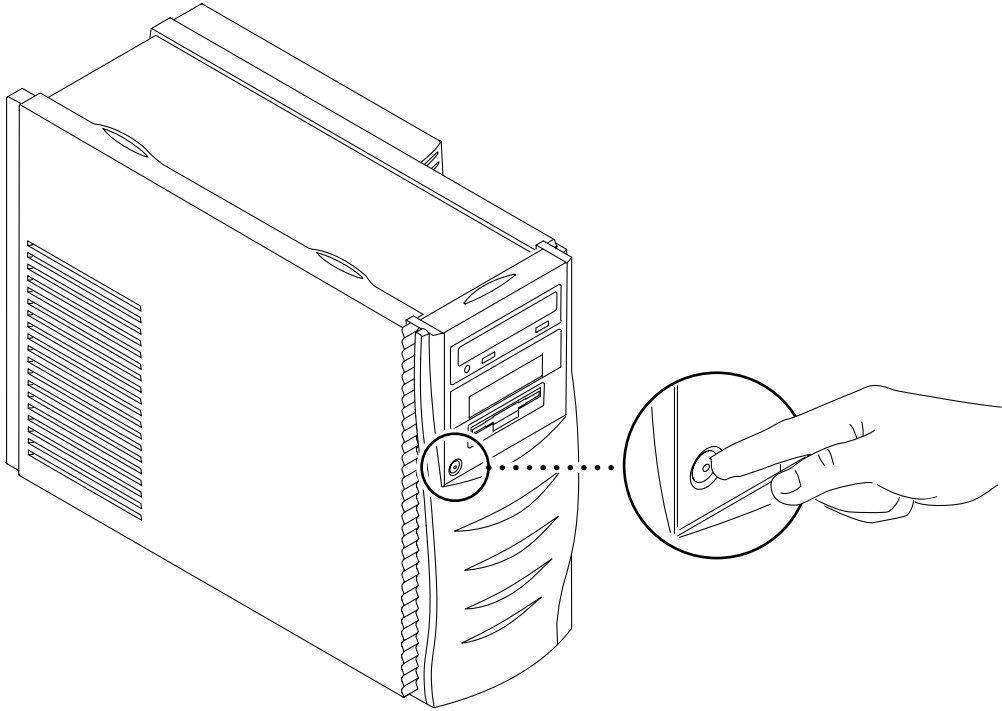

FIGURE 2 Power Switch on a System
2. Unpack or disconnect your system (FIGURE 2).
- c. **Press and quickly release the front-panel power switch (FIGURE 2) and follow the instructions on the screen.**